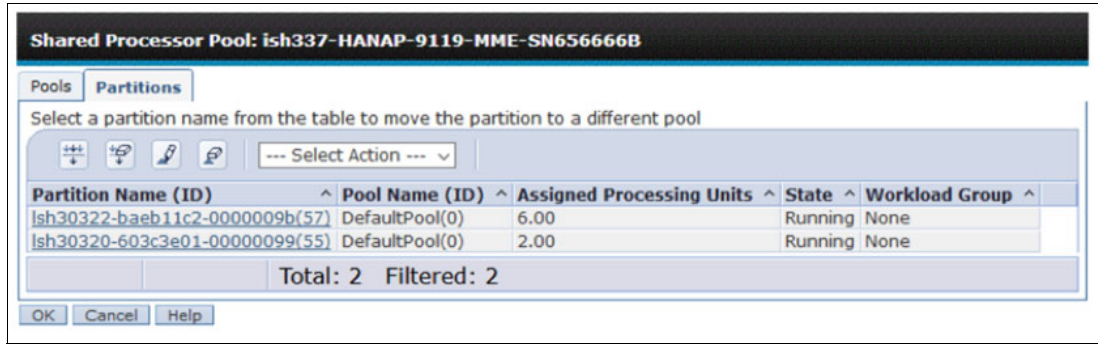

Figure 3-6 Assigning a shared processor pool to a partition
- After the SPP is created, a partition can be assigned to the pool by using the same interface. Click the **Partitions** tab and select the partition name, as shown in Figure 3-6 on page 25.